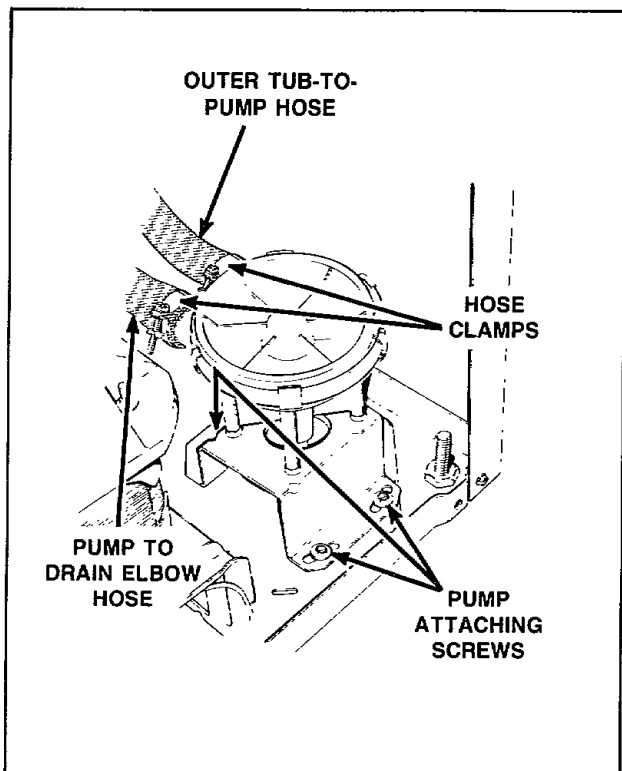

Figure 25
- c. Remove the two front mounting screws, *Figure 25*, and loosen the rear screw.
- e. Loosen hose clamps and remove all hoses from pump assembly, *Figure 25*.